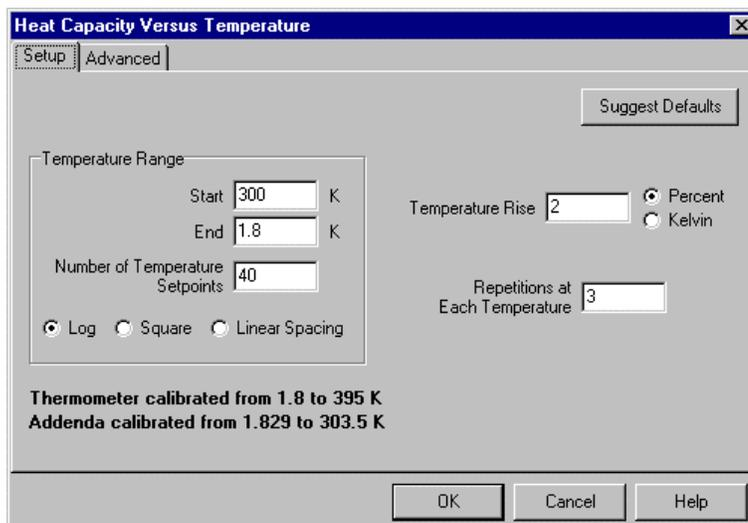
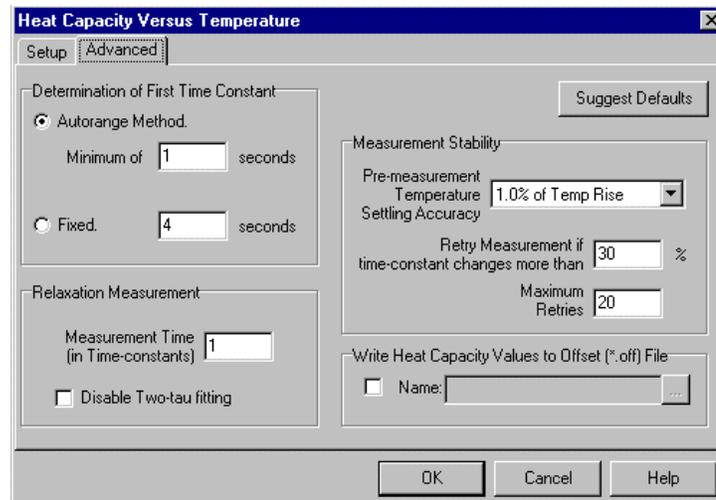

Figure 7-7. **Setup** Tab in **Heat Capacity Versus Temperature** Dialog Box
Figure 7-8. **Advanced** Tab in **Heat Capacity Versus Temperature** Dialog Box
2. Select **Measure Sample Heat Capacity vs. Temperature**. The **Heat Capacity Versus Temperature** dialog box opens. You use this dialog box to specify the parameters for the sample heat capacity measurement. The dialog box displays the values used for the last sample heat capacity measurement. The parameters are organized into a **Setup** tab (Figure 7-7) and an **Advanced** tab (Figure 7-8). Section 7.5 explains the parameters in more detail.